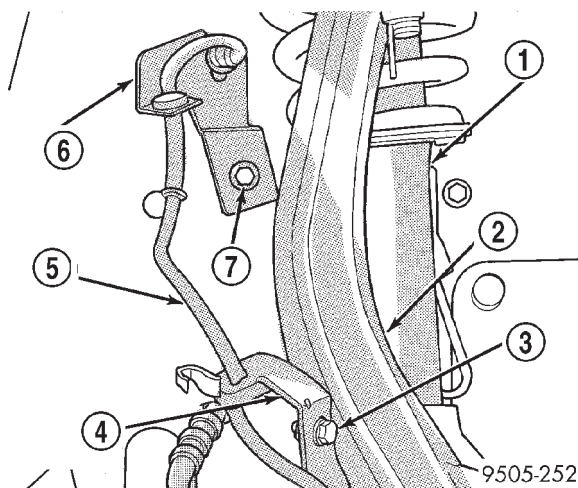
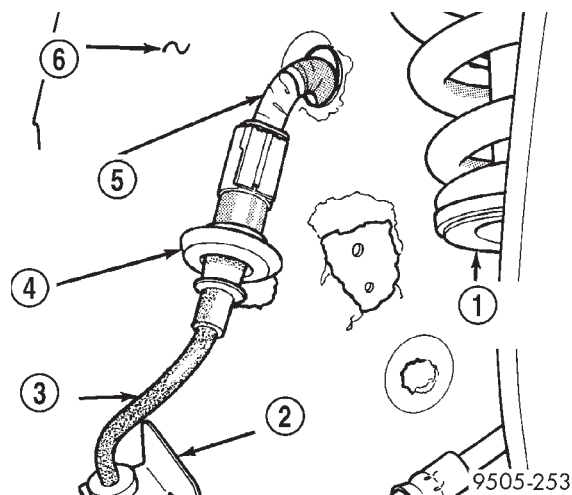
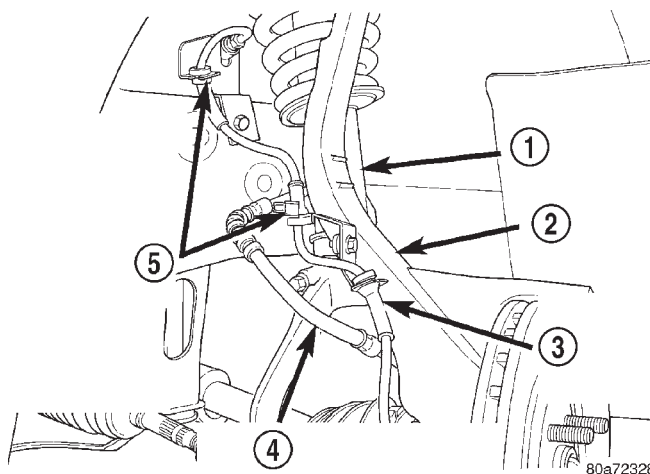

Fig. 40 Speed Sensor Cable Routing Brackets
Fig. 41 Wheel Speed Sensor Connection To Vehicle Wiring Harness
Fig. 44 Correct Front Wheel Speed Sensor Cable Routing
(1) Raise vehicle on jack stands or centered on a frame contact type hoist. See Hoisting in the Lubrication and Maintenance section of this manual, for the required lifting procedure to be used for this vehicle.
(2) Remove the tire and wheel assembly from the vehicle.
(3) Remove the speed sensor cable routing bracket (Fig. 40) from the steering knuckle. Remove the wiring harness sealing grommet retainer and speed sensor routing bracket from the inner fender.
(4) Remove speed sensor sealing grommet from the inner fender (Fig. 41). Then unplug the speed sensor cable from the vehicle wiring harness (Fig. 41).
(1) Connect the wheel speed sensor cable connector to the vehicle wiring harness (Fig. 41).
(2) Install the speed sensor cable assembly grommet into the front inner fender (Fig. 41). Install speed sensor cable grommet retainer/routing bracket on the inner fender of the vehicle and install and securely tighten attaching bolt (Fig. 40).
CAUTION: When installing the wheel speed sensor cable routing bracket on the steering knuckle, (Fig. 40) the speed sensor cable must be looped toward the shock absorber as shown in (Fig. 44). If speed sensor cable is not routed in this direction it will rub against the tire or wheel, damaging the speed sensor cable.